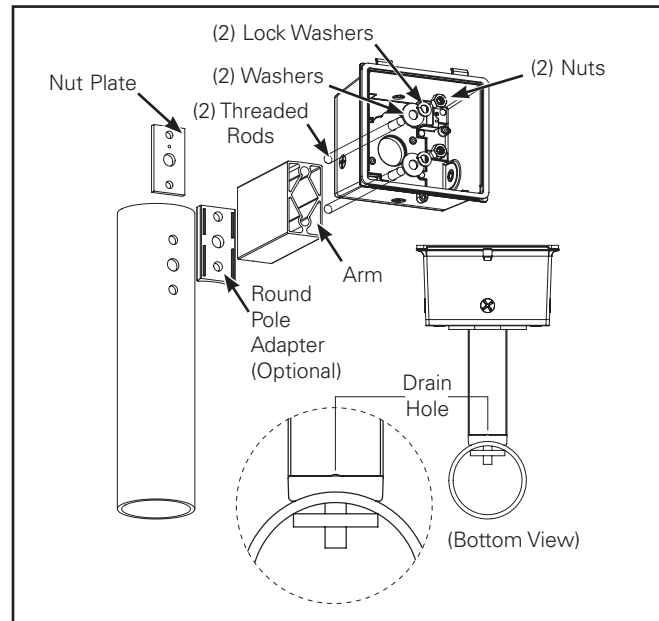

Figure 5.
3. Hold the nut plate on the inside of the pole and insert the threaded rods through the pole and tighten into the nut plate. Assure that the mounting bolts are completely threaded through the nut plate (Figure 5).